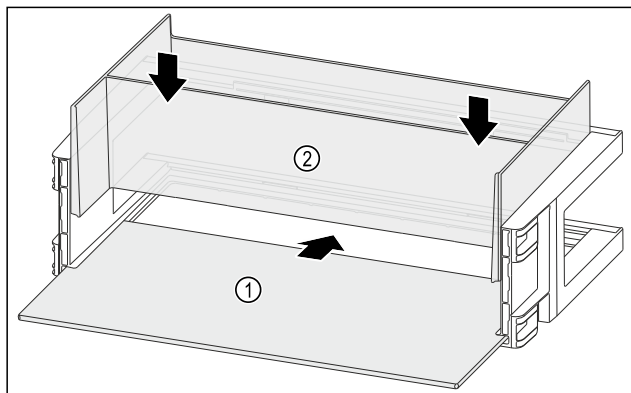

Fig. 156
- Push the shelf Fig. 156 (1) into the side recesses.
- Insert the organizer Fig. 156 (2).